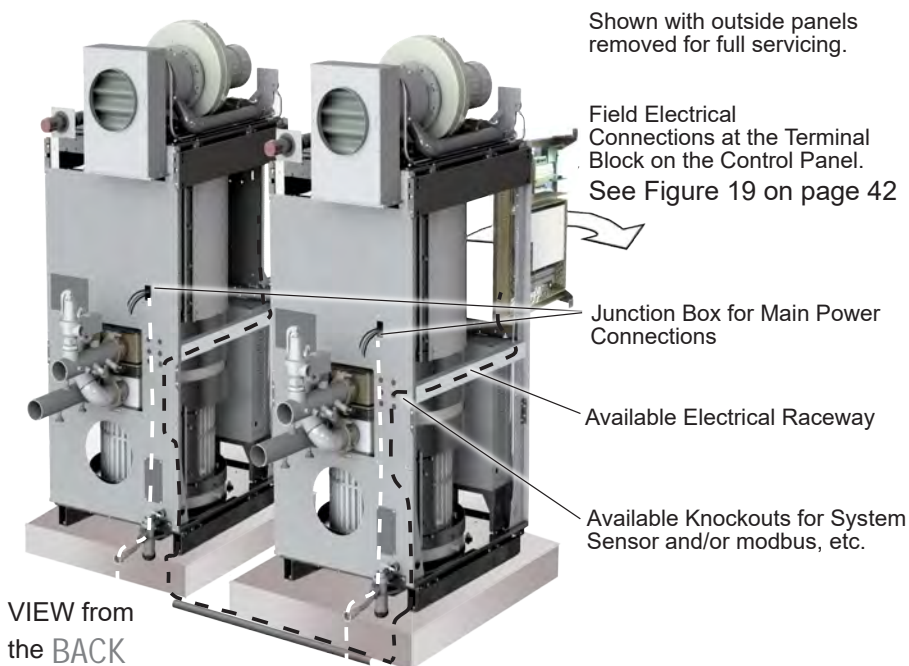
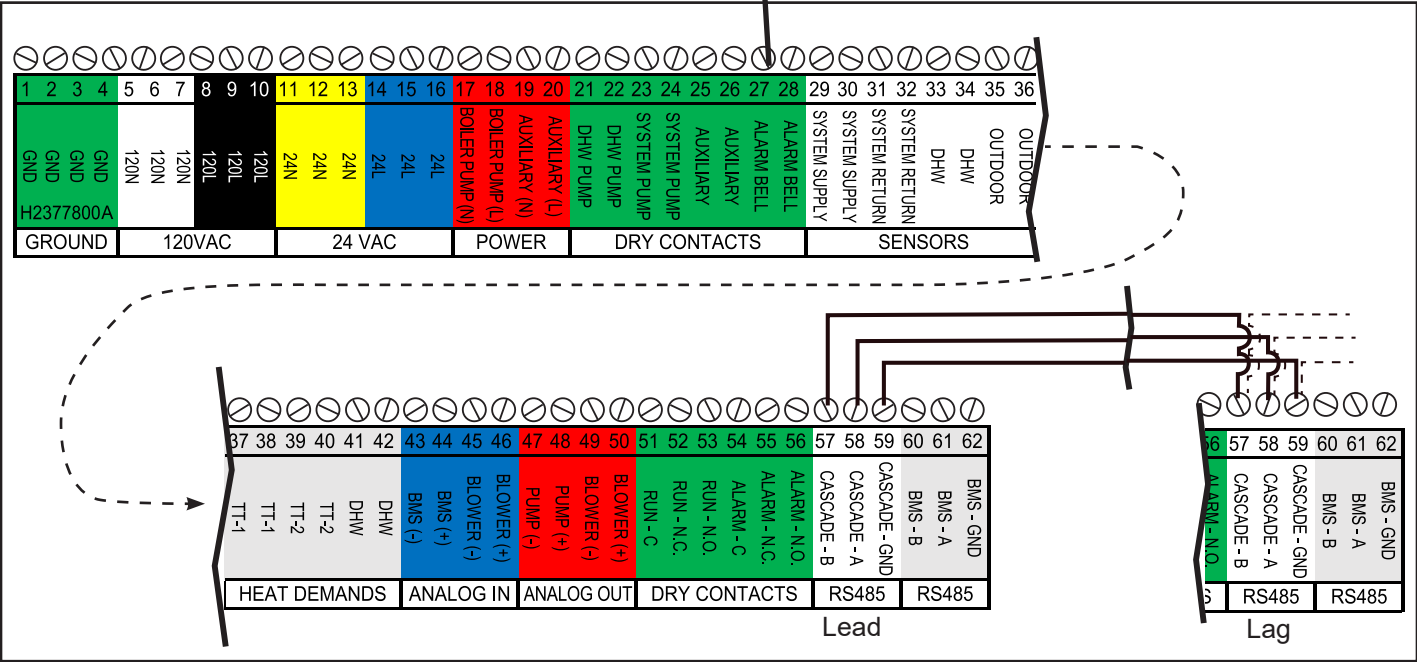

Figure 18. Wiring Access
Figure 20. Field Connection Terminal Block
The control panel swings open for wiring access (also see Figure 18 on page 41). Always run all field wiring to the left as illustrated, as running wires to the right will prevent the opening of the control panel during servicing.
This unit is provided with an electrical junction box in the rear panel for main power connections. See Figure 18. All power wires are factory installed between this junction box and the main high voltage box at the front of the unit. The unit is available with multiple voltage packages to adapt to customer needs ranging from 120-600 volts with single or 3 phase versions. Refer to the rating plate and Table 17 for appropriate voltage and current ratings.
**All power connections must be run through the back panel as shown in Figure 18.**
Wiring for all Field Connections must be run along the inside face of the available electrical raceway to the back of the unit. See Figure 18. and See Figure 20.
**DHW Pump** - if connecting a domestic hot water (DHW) pump, use terminals 21 and 22 (See Figure 20) as this is a dry contact, the DHW pump supply voltage or DHW
**System Supply** - if used, is connected to terminals 29 and 30 (See Figure 20 on page 42). When connected, the controller automatically detects the presence of this sensor and the temperature is shown on the home screen above the red system supply arrow. When installed, the unit controls the firing rate to maintain the system supply temperature to the heat demand set point.
**TT1** - if a thermostat/aquastat or end switch (isolated contact only) is used as a heat demand, connect to terminals 37 and 38 (See Figure 20 on page 42). TT1 functionality is configured on the touch screen on the CH1/DHW1 screens.
**BMS** - if an analog input (0-10VDC or 4-20mA) from a BMS is used as a remote set point or remote firing rate command, wire to terminals 43 and 44 (See Figure 20 on page 42). Polarity is shown on the terminal label. Selecting voltage or current input is accomplished through jumper placement on the control board. Analog BMS functionality is configured using the touch screen.
**Run** - when used, is connected to terminals 51 (common), 52 (normally closed), and 53 (normally open) (See Figure 20 on page 42). The controller closes the normally open set of contacts whenever the unit is running. Contact ratings are 250VAC, 0.6A maximum.
units. Communication between Lead and Lag units is accomplished using RS485. When wiring these units for cascade operations, use terminals 57, 58, and 59 (See Figure 20 on page 42). Use 2-wire twisted pair, shielded w/drain (communication cable) between units. Connect one wire of the communication cable to A (-), terminal 58, and the other wire to terminal B (+), terminal 57, and the drain wire to GND, terminal 59. Connect the other end of the cable to the next unit, matching the termination wiring on the previous unit, except for GND. Only connect the drain wire to ground on one end of the cable to avoid ground loop issues. If more than two units are cascaded together, daisy chain the wiring from unit to unit, keeping the cables as short as possible. A system supply sensor must be installed and connected to the Lead boiler. The Lead boiler will use this system supply sensor as the temperature control sensor for cascade operations. TT1 terminals are used to initiate a heat demand at the Lead boiler.
**BMS** – if communicating to the unit via RS485 serial communications, either Modbus or BACnet MSTP, connect to terminals 60, 61, and 62 (See Figure 20 on page 42). Use 2-wire twisted pair, shielded w/drain (communication cable) between units. Connect one wire of the communication cable to A (-), terminal 61, and the other wire to terminal B (+), terminal 60, and the drain wire to GND, terminal 62.